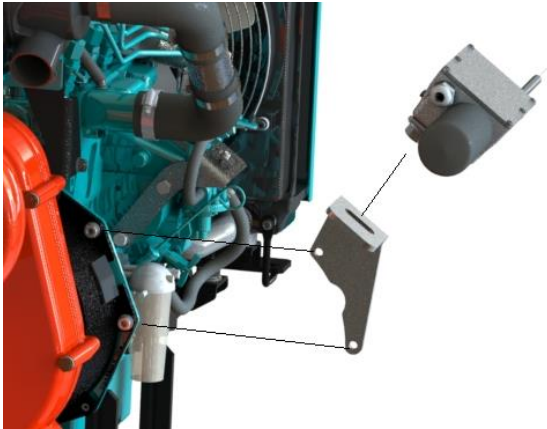

Figure 1
1. Attach the actuator mounting bracket to the engine adapter mounting screw locations as shown in Figure 1.